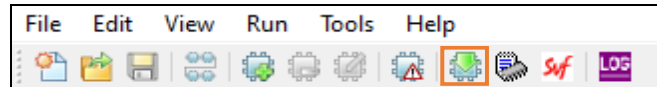

Figure 6.5. Programmer Menu Bar
7. Click **Programming** from the menu bar to start programming (Figure 6.5).